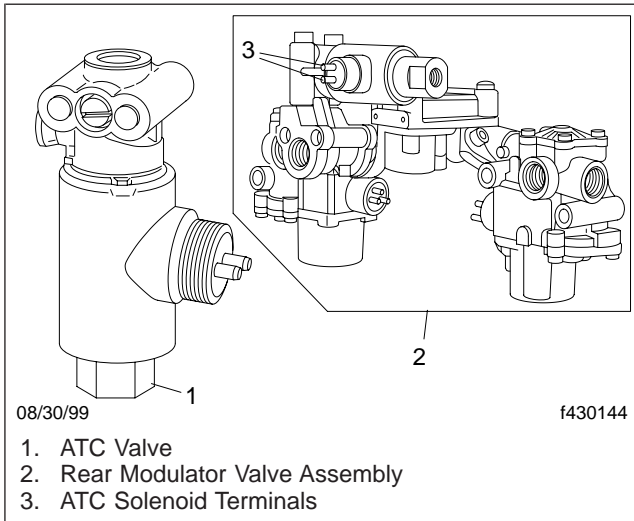

Fig. 4, ATC Valve Terminals
3. Connect ohmmeter probes to the ATC valve terminals and read the resistance. See Fig. 4.